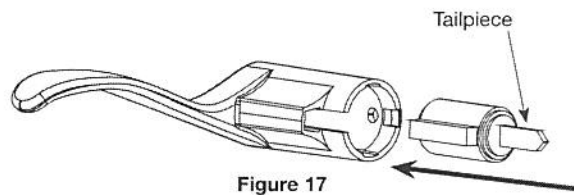

Figure 17
- A. Install cylinder in exterior lever handle as shown in Fig. 17.